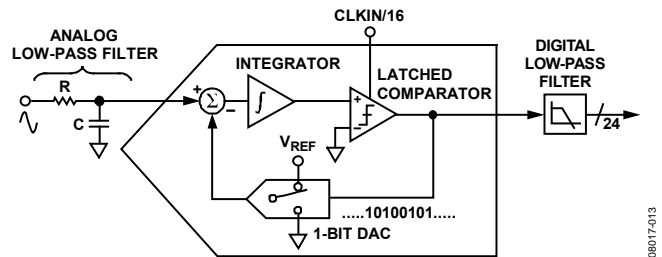
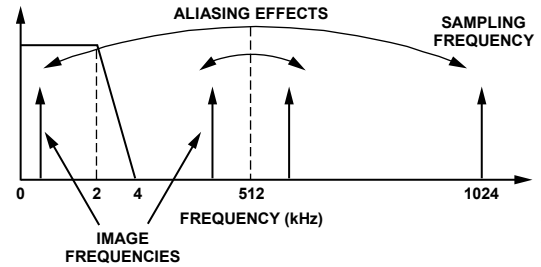

Figure 41. First-Order Σ - Δ ADC
Figure 43. Aliasing Effects
For simplicity, the block diagram in Figure 41 shows a first-order Σ - Δ ADC. The converter consists of the Σ - Δ modulator and the digital low-pass filter.
Figure 41 also shows an analog low-pass filter (RC) on the input to the ADC. This filter is placed outside the ADE7854; its role is to prevent aliasing. Aliasing is an artifact of all sampled systems and is illustrated in Figure 43. Aliasing means that frequency components in the input signal to the ADC, which are higher than half the sampling rate of the ADC, appear in the sampled signal at a frequency below half the sampling rate. Frequency components (the arrows shown in black) above half the sampling frequency (also known as the Nyquist frequency, that is, 512 kHz) are imaged or folded back down below 512 kHz. This happens with all ADCs, regardless of the architecture.